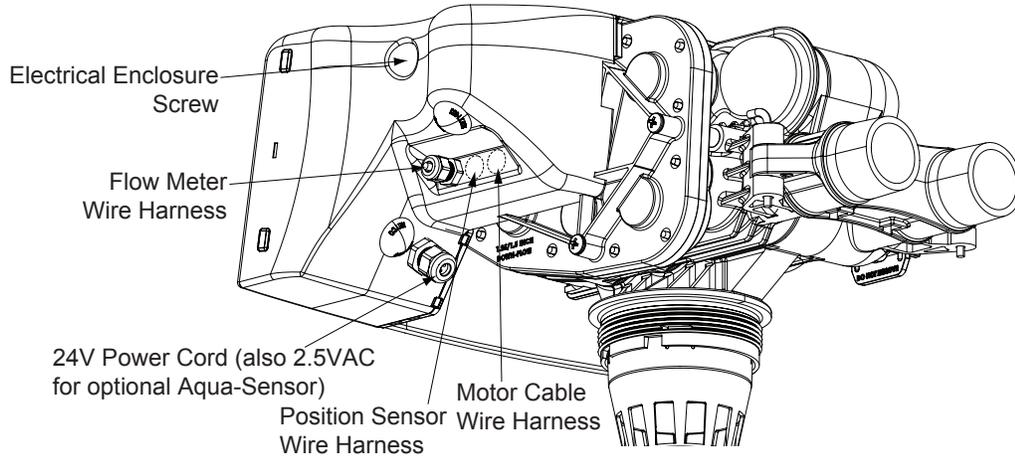

Figure 19. HE 1.5 Twin, main controller #1, electrical and accessory connections.
3. Connect the auxiliary board to the main board. See Figure 19. The auxiliary board is shipped inside the carton for HE 1.5 Twin Controller #2.
4. Open the two ports through the molded recessed area (area #4). See Figure 19. Use a sharp object (screwdriver or knife) to push through the plastic.